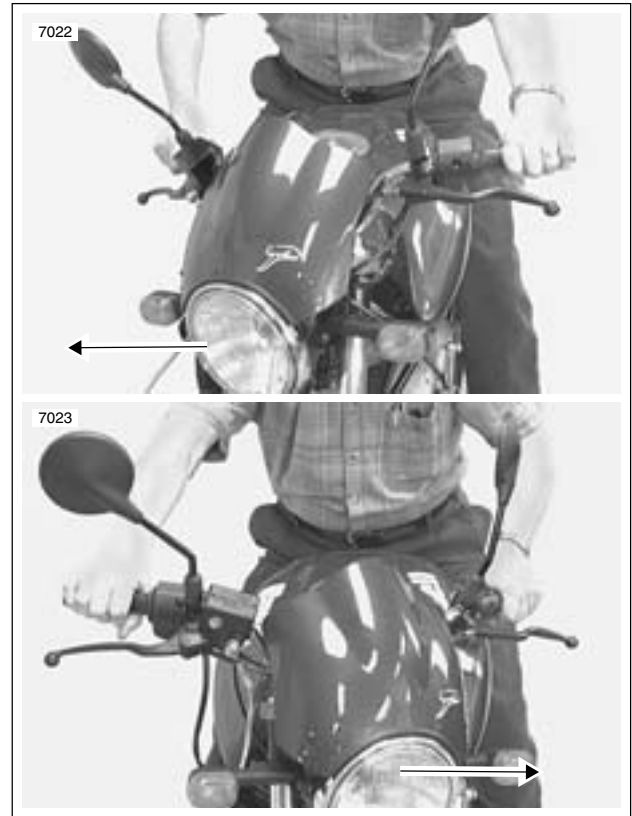

Figure 1-54. Testing Handlebars
1. See Figure 1-54. Check steering motion range to both fork stops. Handlebars should not make contact with the front forks, fairing or fuel tank.